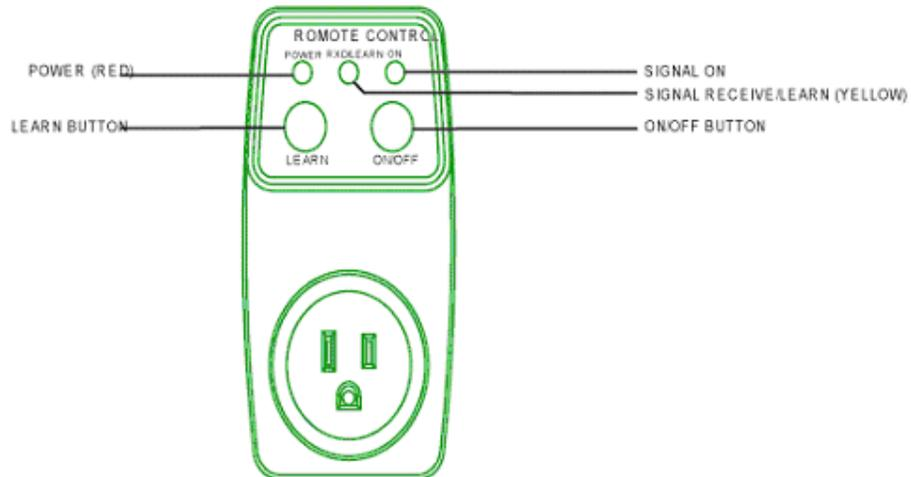

Figure 3
4. Fasten base snugly to wall using mounting holes shown in Figure 3 and two mounting screws. Leveling is for appearance only and will not affect thermostat operation.